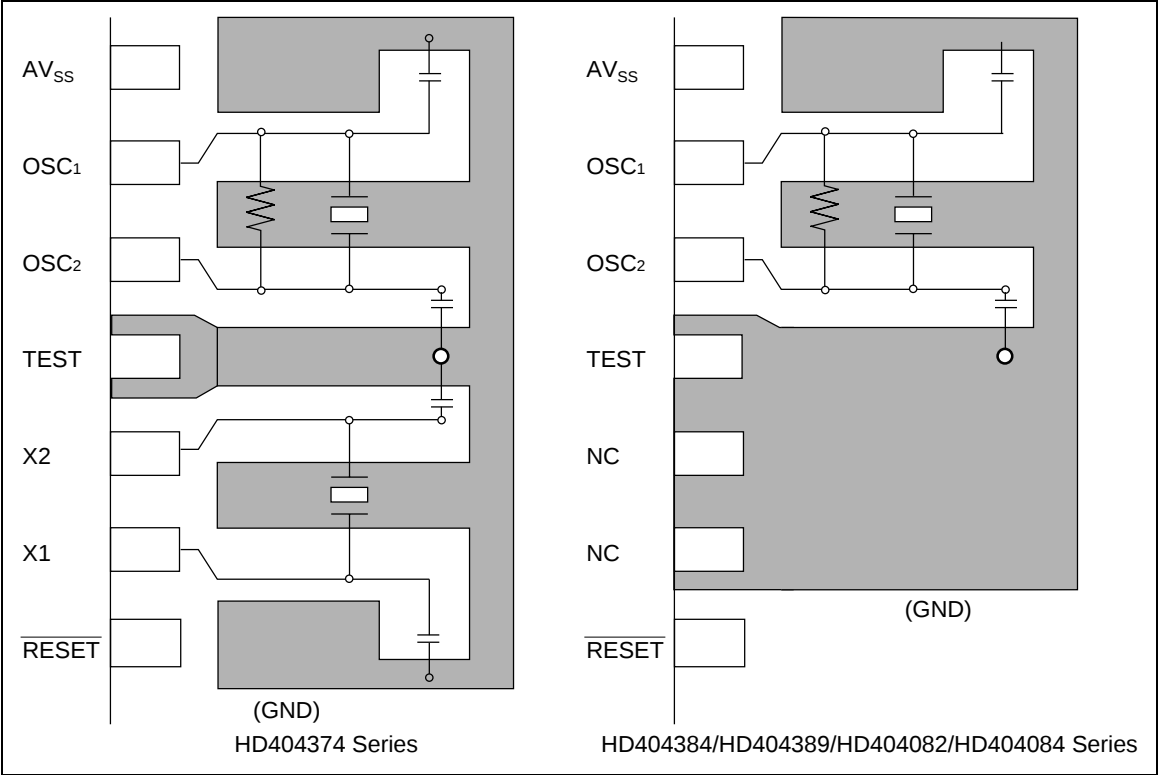

Figure 23 Typical Layouts of Crystal and Ceramic Oscillator
- Make the connections between the OSC1 and OSC2 pins (X1 and X2 pins) and external components as short as possible, and ensure that no other lines cross these lines (see layout example in figure 23).